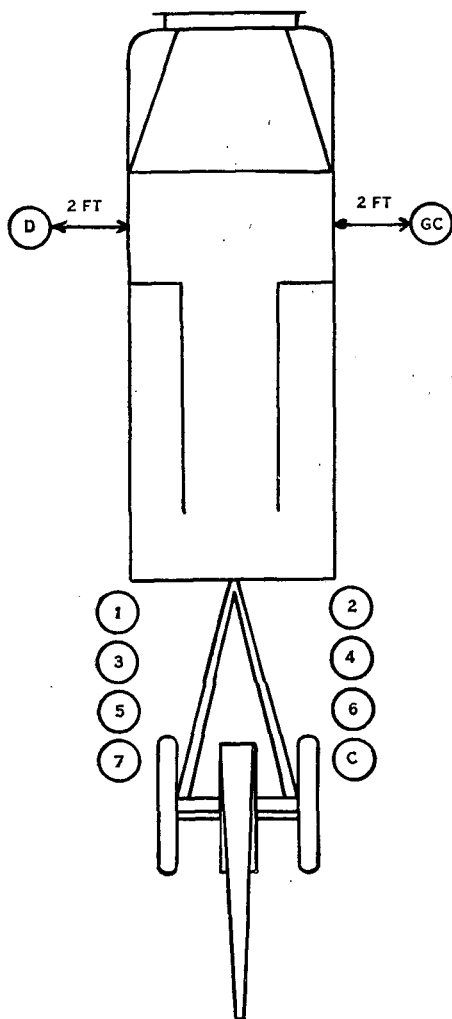
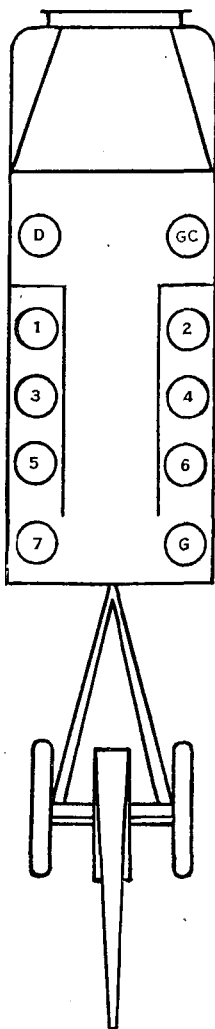

FIGURE 32.—Posts of cannoneers in PREPARE TO MOUNT.
FIGURE 33.—Posts of cannoneers MOUNTED.
■ 72 To MOUNT.—The command is: 1. CANNONEERS, PREPARE TO MOUNT. 2. MOUNT. At the first command, the cannoneers move at double time to positions shown in figure 32. At the second, the cannoneers of both columns mount in order from head to rear, and take seats as shown in figure 33. Each cannoneer is assisted by the one directly behind (or in front in the case of the last cannoneer in column) to insure promptness, and prevention of injuries. If the gun commander and
■ **73. To DISMOUNT.**—The command is: 1. **CANNONEERS, PREPARE TO DISMOUNT**, 2. **DISMOUNT**. At the first command, the cannoneers assume standing positions facing the rear of the prime mover; at the second command, they jump to the ground and at the double time take posts as shown in figure 32. If the gun commander and driver are to be included in this movement, the command is: 1. **PREPARE TO DISMOUNT**, 2. **DISMOUNT**. At the first command, the gun commander and the driver unlatch their doors and hold them slightly open; at the second command, they promptly dismount, close their doors, and take posts as shown in figure 32.